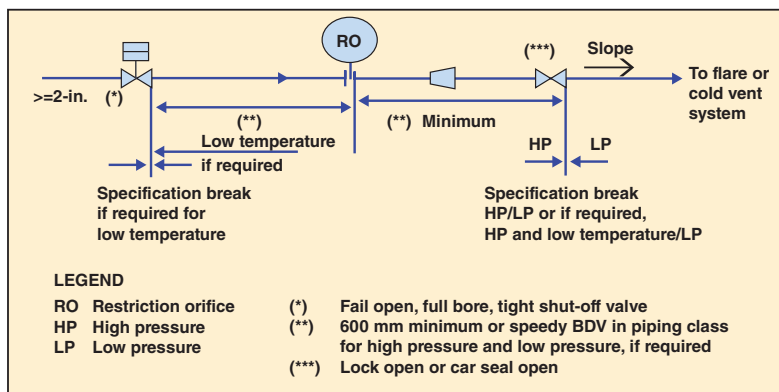

FIGURE 1. Shown here is a typical arrangement for a blowdown system. It consists of an on/off valve, a restriction orifice (RO) and a block valve
Figure 1 shows a typical arrangement for blowdown system. It consists of an on/off valve, a restriction orifice (RO) and a block valve.